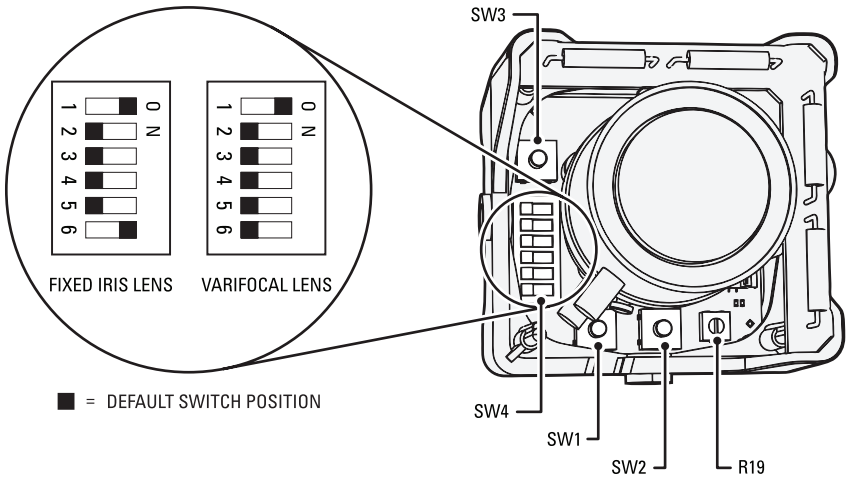

Figure 10. Adjusting the IS150-DN/CH Series Camcorder
Refer to Figure 10 to adjust the IS150-DN or IS150-CH model.
To adjust the auto iris DC-drive level (refer to Figure 10 on page 17):
2. Select the camera to synchronize. Use buttons SW1 and SW2 to synchronize the camera to the reference camera (refer to Figure 10 on page 17). SW1 increases vertical phase; SW2 decreases vertical phase.
To manually correct defective pixels (refer to Figure 10 on page 17):